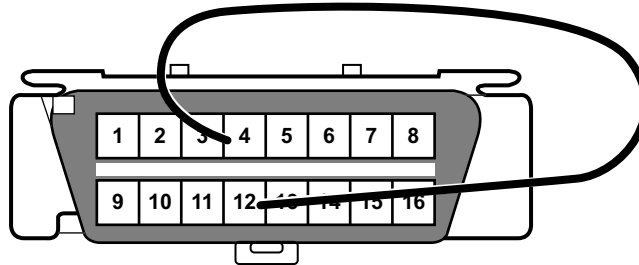

Figure 10-21 16-pin connector jump wire
- Jump pins 4 and 12 as shown in Figure 10-21.